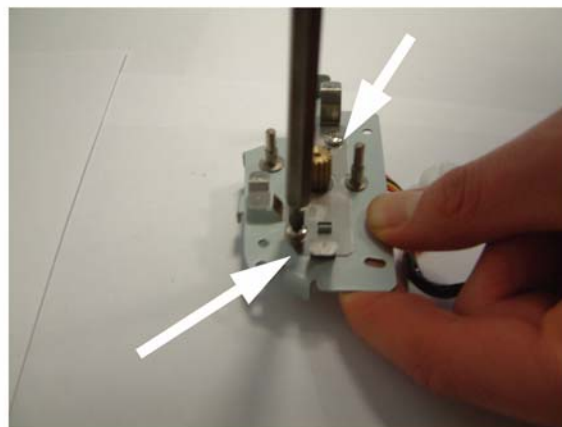

Figure 3
3. If required unscrew the two mounting screws of the motor and remove the motor, Figure 3.